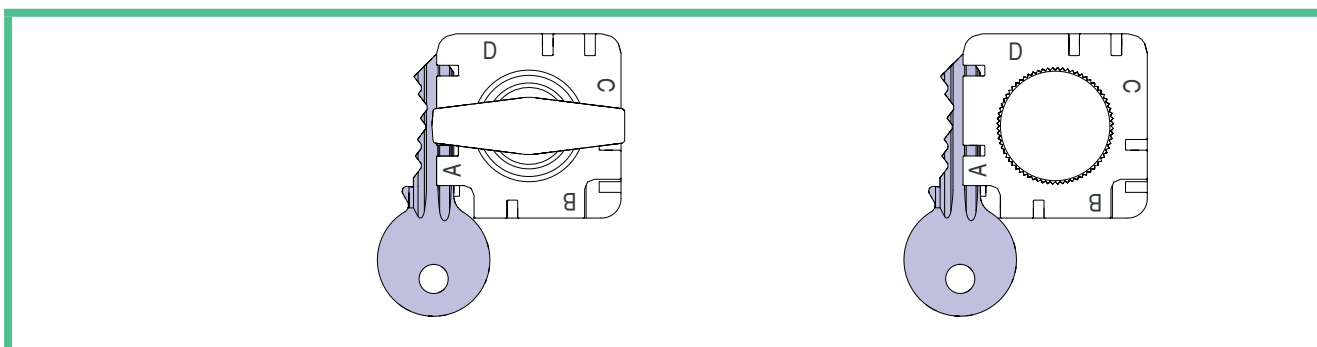

Fig. 38 - GREEN light
- 8) The end of the cutting operation is indicated by a GREEN LIGHT (Fig. 38 - GREEN light).